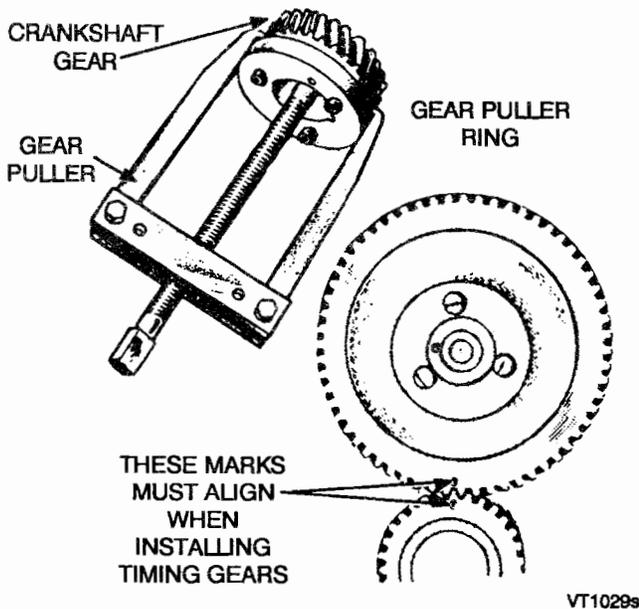

FIGURE 9-17. TIMING GEAR REMOVAL AND INSTALLATION
2. Attach the gear pulling ring using two 10-32 screws (Figure 9-17). Tighten the screws alternately, until both are tight.